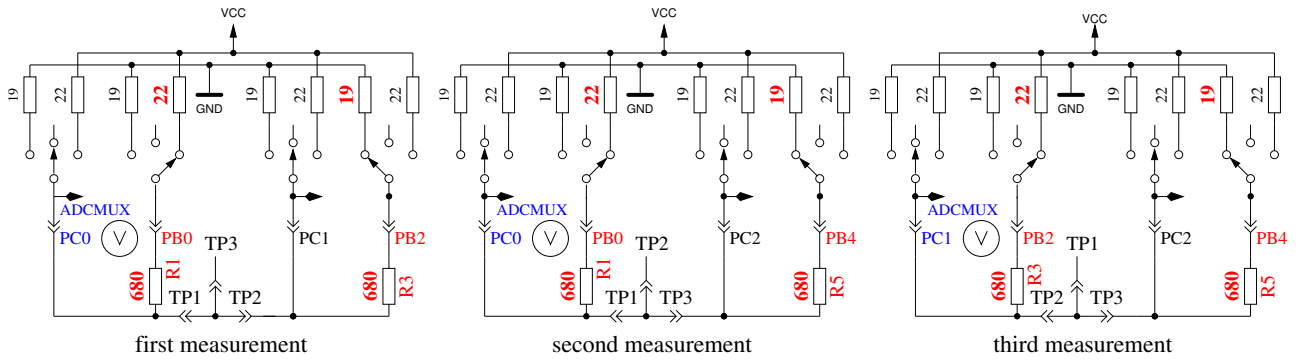

Figure 5.62. Comparison of 680Ω resistors
2. **Comparing of the 680Ω resistors.** In row 1 the cryptic text “+RL- 12 13 23” is shown. Meaning of this is as follows: The RL is the short form of Resistor Low meaning the 680Ω resistors. The 12 stand for: resistor at pin 1 is connected to VCC (+) and resistor at pin 2 is connected to GND (-). The result of this measurement is displayed in row 2 at the first place as difference to the theoretical value. In row 1 follows now a “13” which means, that the first connection of measurement 1 is still connected with 680Ω to VCC but that the resistor of pin 3 is connected to GND. The result is displayed in the middle place of row 2 as difference to the theoretical value. The last measurement of this test “23.” means that now the resistor at pin 2 is connected to VCC (+) and the resistor of pin 3 is connected to GND. The result of measurement is displayed at the last place of LCR row 2 as difference to the theoretical value. Please remember, that the resolution of the ADC is about 4.88mV! The measurement situation is also shown in figure 5.62. The theoretical value with respect to the internal resistance of the pins should be: